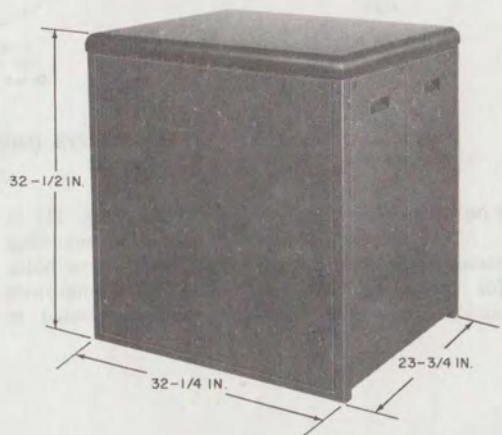

Fig. 12—Floor-Supported Cabinet per ED-69366-50, Group 1
4.01 The floor-supported cabinet per ED-69366-50, Group 1 (Fig. 12) is a steel cabinet with light olive gray sides and top. Two front doors are hinged at the bottom so that, when lowered, they provide tracks upon which 26A apparatus mountings roll. The top, side, and rear panels are removable. Two ED-69366-50, Group 3 terminal plate assemblies (Fig. 39) may be mounted within the cabinet. One or two 26A apparatus mountings must be ordered separately. The ED-69366-50, Group 1 cabinet has been replaced by the ED-69489-50 cabinet.